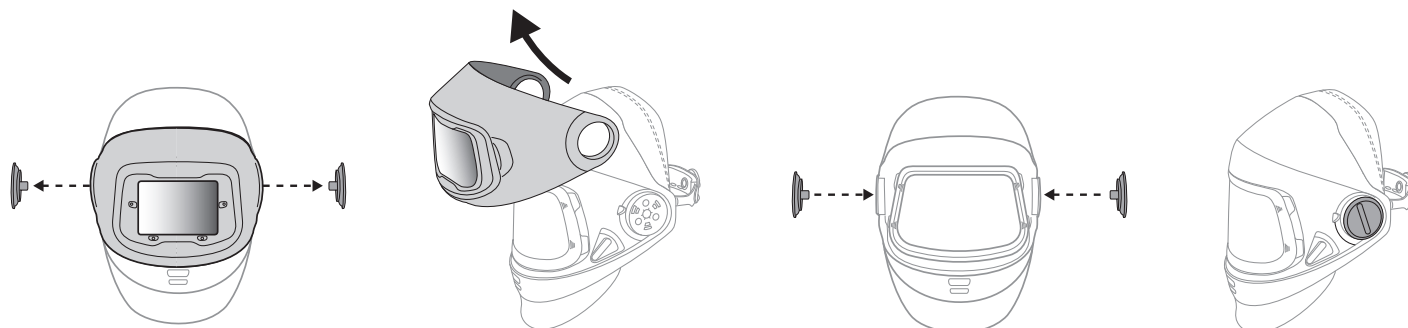

Fig. 9
- b. Remove the outer welding shield and reattach the Pivot Knobs (Fig. 9).